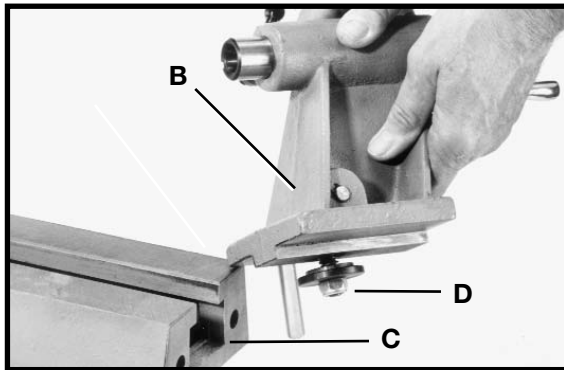
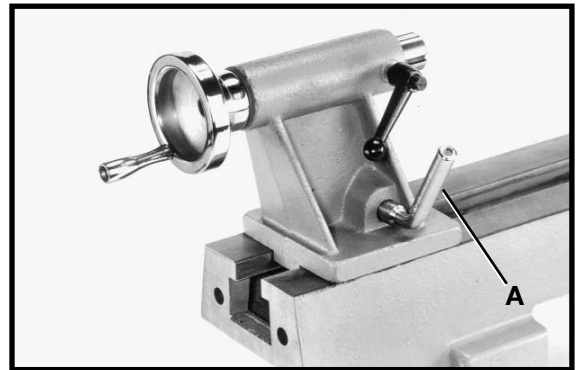

Fig. 8
Fig. 9
1. Loosen locking lever (A) Fig. 9, and slide tailstock assembly (B) in the channel (C) Fig. 8 of the lathe bed.
2. **IMPORTANT:** If clamping action on the tailstock (B) Fig. 9 is too tight or too loose on the lathe bed, remove the tailstock and turn nut (D) Fig. 8 clockwise to tighten clamping action, or counterclockwise to loosen clamping action. Attach the tailstock on the lathe bed and tighten locking lever (A) Fig. 9.